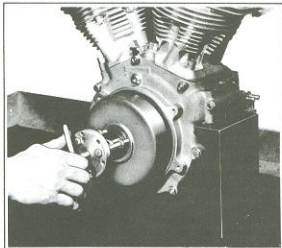

Figure 5-12. Pulling Alternator Rotor
Voltage will vary with air temperature as shown in curve and should be within limits shown for any temperature. (See Figure 5-12.)
6. Remove sprocket spacer from sprocket shaft. Using Puller, Part No. 95960-52A, pull alternator rotor from sprocket shaft as shown in Figure 5-12.